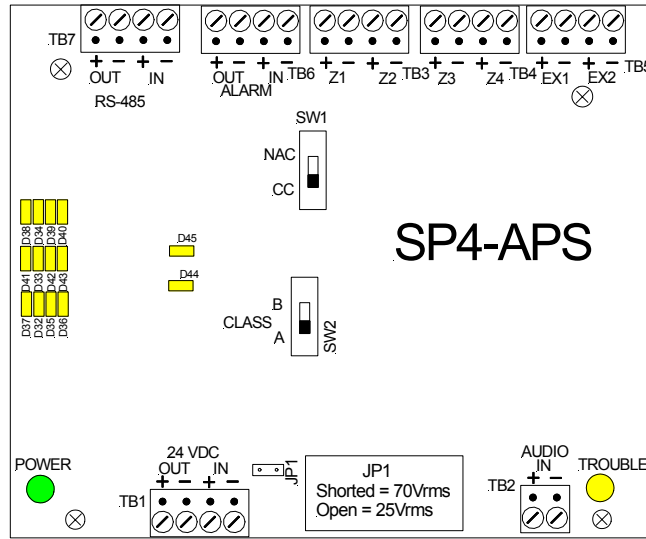

Figure 14:
Figure 14 shows the SP4-APS PC board layout.
Alarm Mode occurs when an alarm signal initiates the SP40/2 into an alarm condition, or when the SP4-APS ALARM input or output wiring is in trouble. When the SP4-APS module is in ALARM, it turns on all audio output zones and ignores any SP4-TZC paging and/or BGM commands. When the SP4-APS is installed with an SP-40/2 it must be set for "CC MODE" (Contact Closure). When the SP4-APS is installed with an Audio Booster product it must be set for "NAC MODE." The SP4-APS uses 3.0mA at 24VDC in the NAC mode. See Figure 14 for the location of the ALARM terminals.
5. If the yellow TROUBLE LED is “ON” an output circuit supervision trouble or module trouble is indicated. Remove the SP4-APS cover and observe the 12 yellow AUDIO TROUBLE LED's as shown in Figure 14 to determine the reason for the trouble using Table 3. (NETWORK TROUBLE LED's are used when the SP4-APS is used with the Telephone Zone Controller (SP4-TZC)).